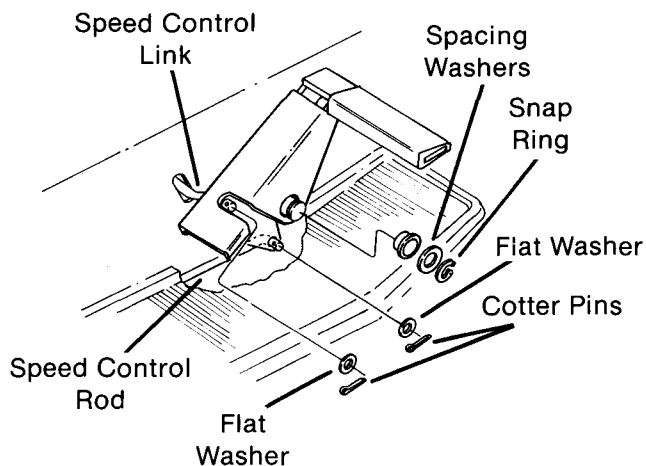

FIG. 68B
- D. Remove snap ring and spacing washers on right outer end of shaft (Fig. 68B)
- E. Remove cotter pin and flat washer from speed control link and speed control rod under the reverse foot pedal (Fig. 68B). Slide forward/reverse control pedal assembly off of shaft.